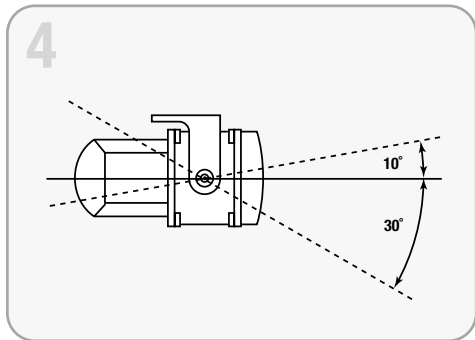

FIGURE 4
- Vertical aiming adjustment is limited to approximately 10° rotation in direction of the mounting bracket, so choose a location where the vertical adjustment falls within this range (FIGURE 4).